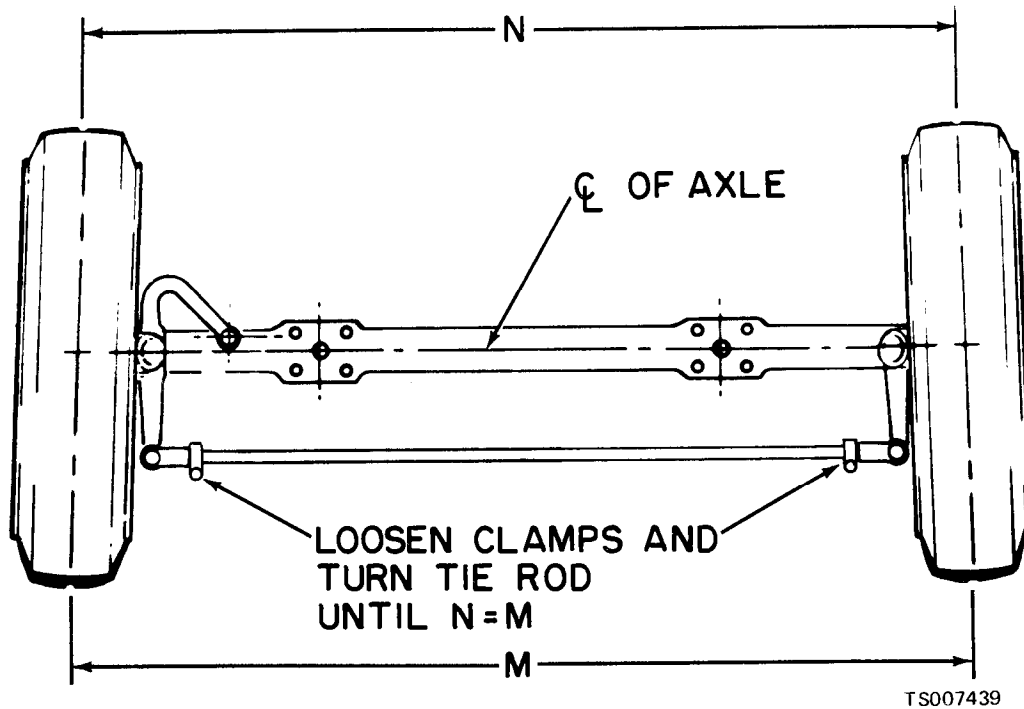

Figure 11-2. Tie Rod Adjustment.
(1) Turn the front wheels to the exact straight-ahead position.
(2) Check the toe-in of front wheels after rolling the truck ahead one full revolution of the wheels (with only the weight of the truck on the tires).
(3) Actual toe-in measurements should be taken at hub-height, between the two points on the center of the tread at the rear of the tires. See figure 11-2.